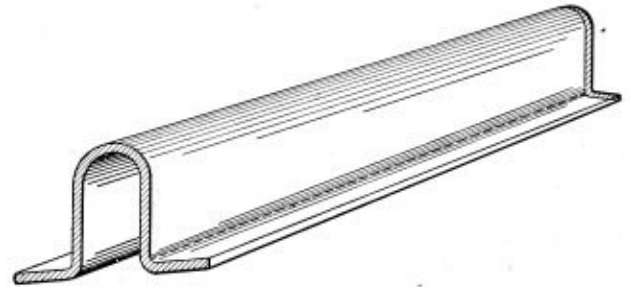

Fig. 1.—Form of Bowling Hoop Required
Q.—Will you kindly answer the following question through your important journal? What would be the best way of rolling to shape the section of a "Bowling" hoop as per sketch, Fig. 1, and also the best way of fitting it to a boiler; that is, connecting two rings, the hoop being used as a patch?